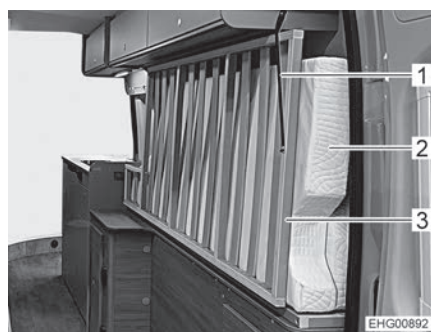

Fig. 46 Right-hand bed in transport position
- Fold the mattress (Fig. 46,2) of the right-hand bed (seen in the direction of travel) lengthwise and push it completely outwards standing on its edge (see Fig. 46).
- Fold up the bed base (Fig. 46,3) of the right-hand bed.
- Secure the rear end of the bed base with the retaining strap (Fig. 46,1).